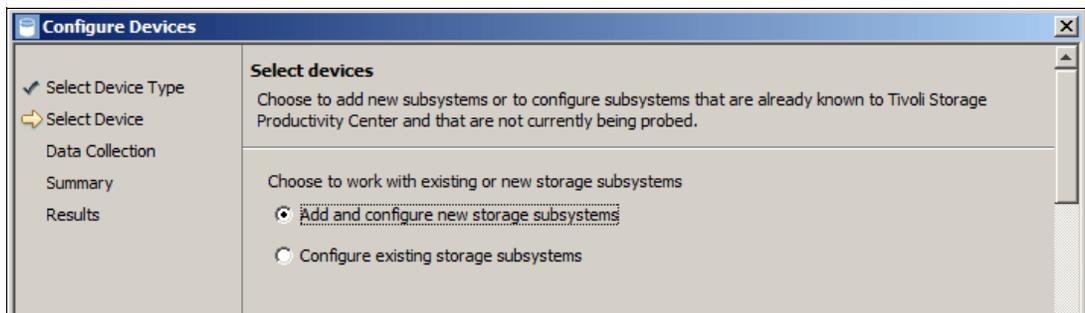

Figure 9-14 Add new storage subsystems
3. Select **Add and configure new storage subsystems** (Figure 9-14) and click **Next**.